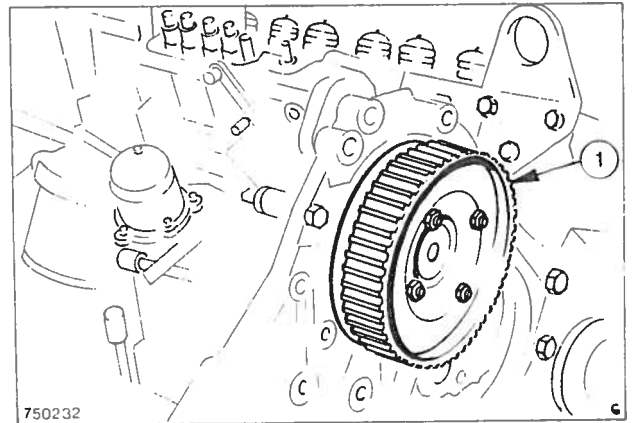

Fig. 11 Removing the injection pump
16. Remove the injection pump drive gear and remove the pump Fig. 11. Remove the front housing complete with water inlet connection.